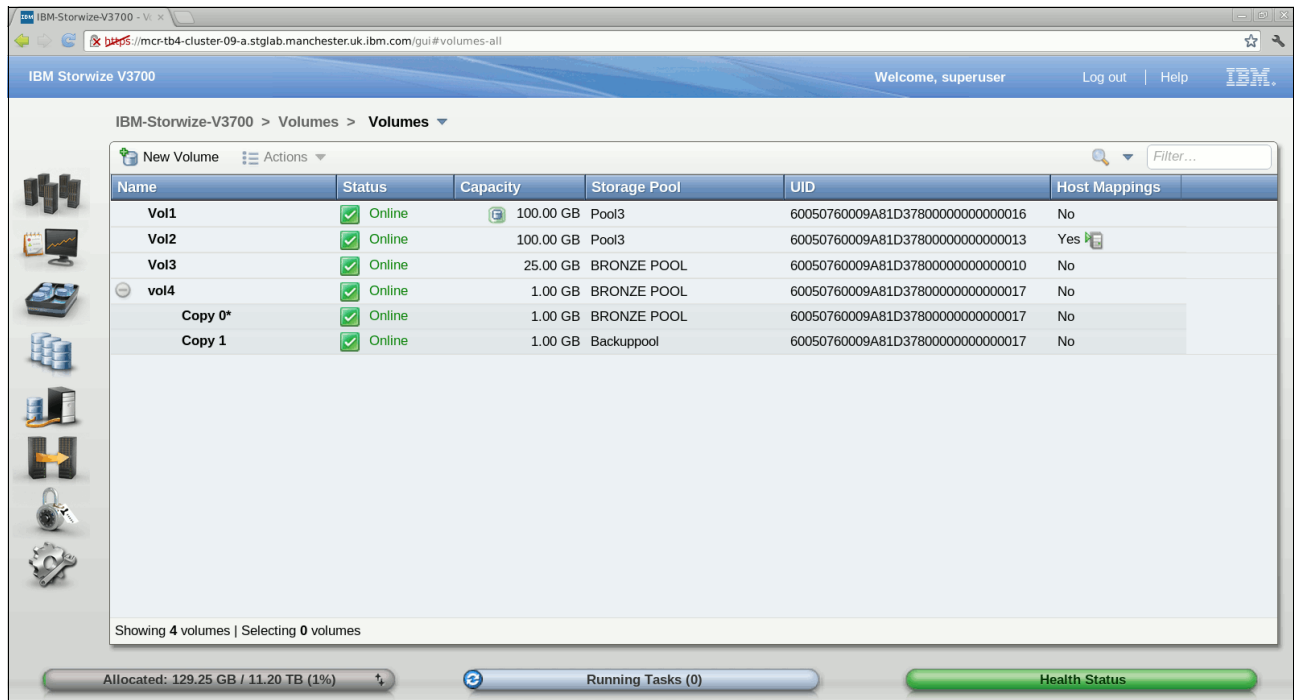

Figure 8-57 Volume copies
- **Name:** Shows the name of the volume. If there is a + sign next to the name, this sign means that there are several copies of this volume. Click it to expand the view and list the copies, as shown in Figure 8-57 on page 352.